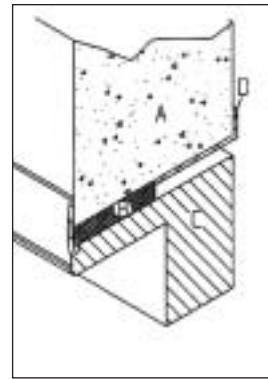

Fig. 2
2. Use spacer at the upper horizontal to prevent distortion of frame (figure 2).